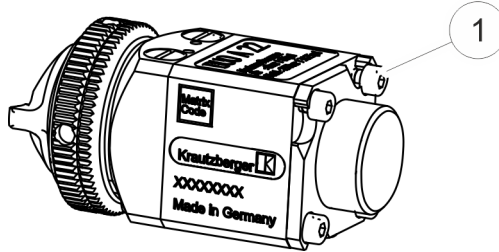

Fig. 27: Loosening the cylinder screws
3. ➞ Slightly loosen the four cylinder screws ( Fig. 27/1) with a spanner (SW 10) by turning them two times each.